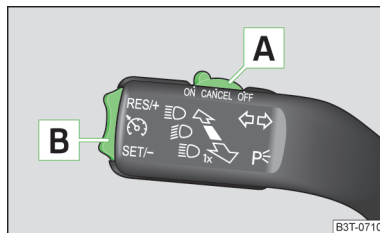

Fig. 150
➤ Move switch **A** » Fig. 150 into the **ON** position.
➤ Move switch **A** » Fig. 150 into the **OFF** position.
- Push the rocker button **B** into the **SET/-** » Fig. 150 on page 158 position.
- Push the rocker button **B** into the **RES/+** » Fig. 150 on page 158 position.
The stored speed can be **reduced** by pushing the rocker switch **B** into the **SET/-** » Fig. 150 on page 158 position.
The cruise control system can be **temporarily deactivated** by pushing the switch **A** » Fig. 150 on page 158 into the spring-mounted **CANCEL** position or by depressing the brake or clutch pedal.